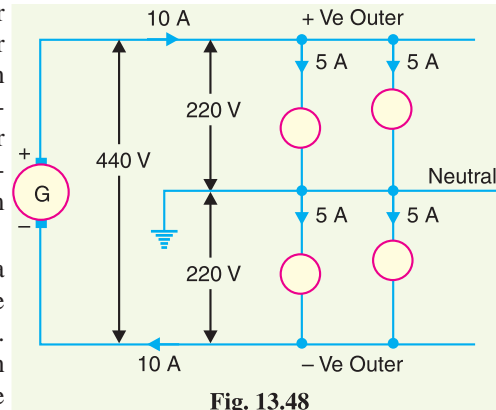

Fig. 13.48
Fig. 13.48 shows the general principles of a 3-wire d.c. system. It consists of two outers and a middle or neutral wire which is earthed at the generator end. The potential of the neutral wire is *half-way between the potentials of the outers. Thus, if p.d. between the outers is 440 V, then positive outer is at 220 V above the neutral and negative outer is 220 V below the neutral. The current in the neutral wire will depend upon the loads applied to the two sides.
- (i) If the loads applied on both sides of the neutral are equal (*i.e.* balanced) as shown in Fig 13.48, the current in the neutral wire will be zero. Under these conditions, the potential of the neutral will be exactly half-way between the potential difference of the outers.